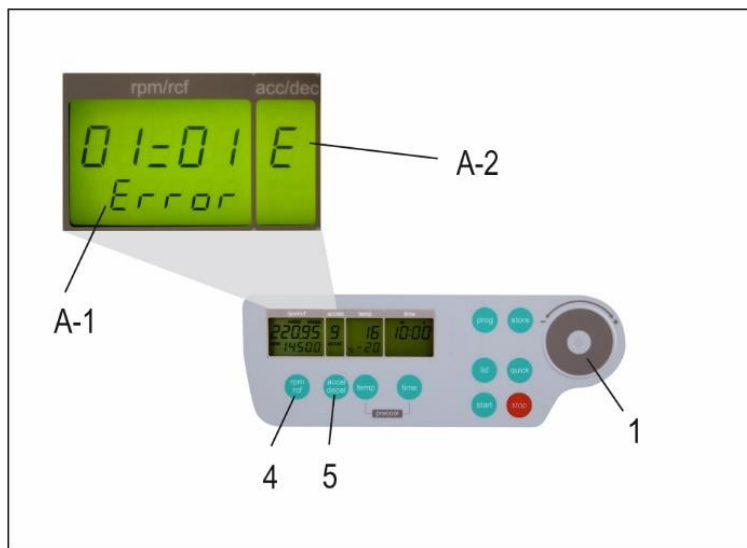

Figure 11
The list of the last 99 error messages can be reviewed by pressing the key, "rpm/rcf" (4) and scroll through, with the control field (1). The respective error codes appear in the display, "rpm/rcf" (A-1) (see Figure 11). The first two numbers indicate the appeared errors ongoing from 00 to 99, the last two numbers indicate the error code. Please refer to "Table 6: Error Messages", (see APPENDIX P.IV).